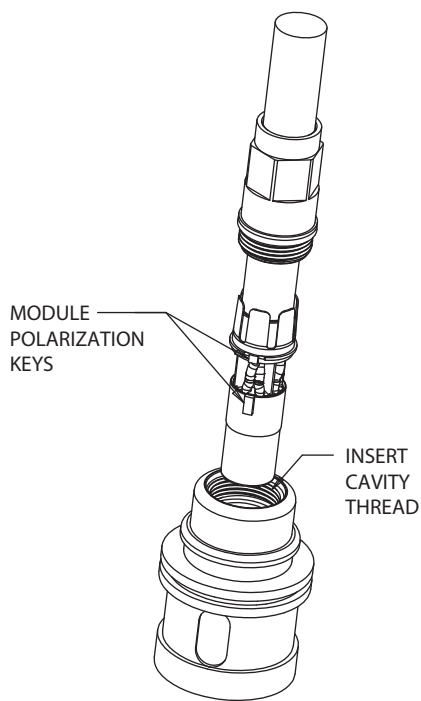

FIGURE 1
- A. Slide completed module into the insert cavity, making sure to align the module polarization keys with the cavity keyway. (Figure 1)